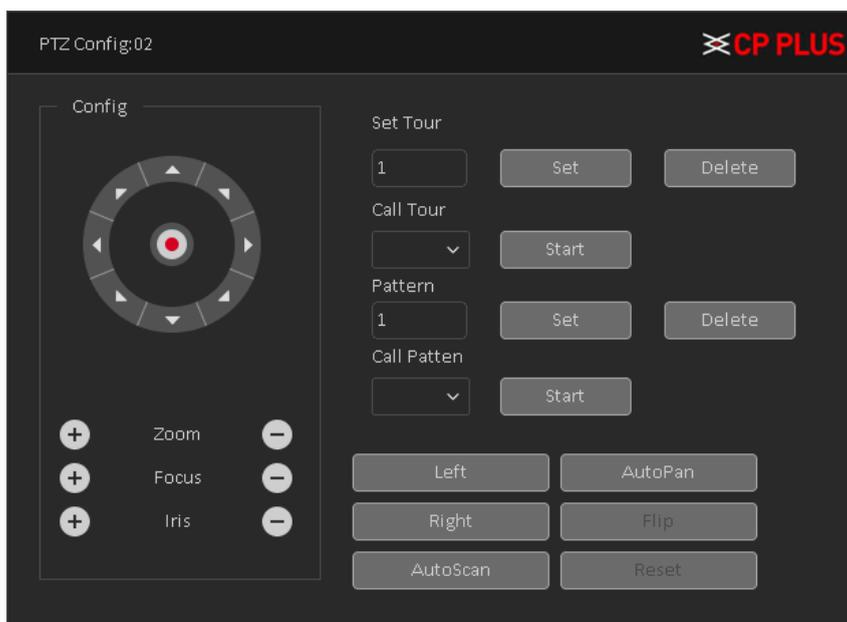

Figure 3.26
- **[Advanced]** To enter a new operation page as shown in Figure 3.26
- Then click on to delete particular tour. See Figure 3.26
- Then Click on , PTZ will turn to preset position. See Figure 3.26
- Then click on to delete particular pattern. See Figure 3.26.
- Then Click on , PTZ will start follow pattern path. See Figure 3.26.